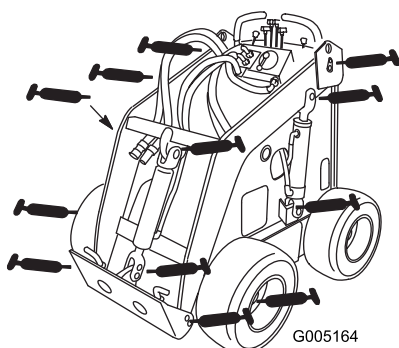
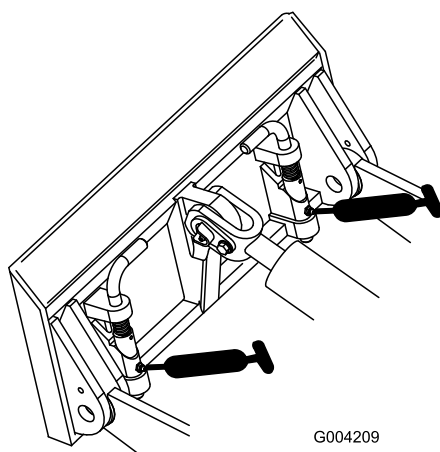

Figure 15
Figure 16
3. Connect a grease gun to each fitting (Figure 15 and Figure 16).